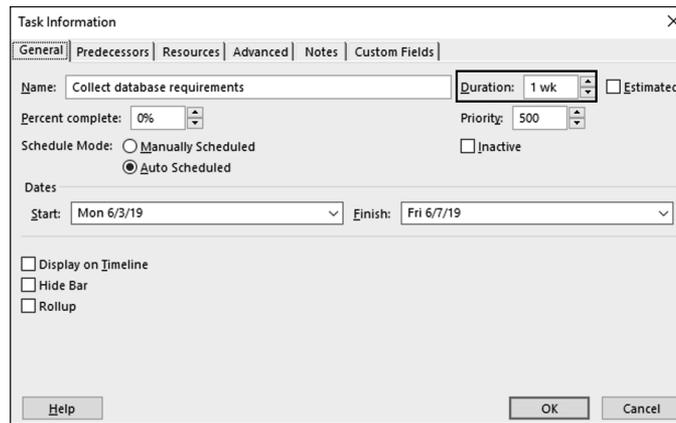

FIGURE 5-2: Setting the duration.
3. In the Duration box, use the spinner arrows to increase or decrease the duration, as shown in Figure 5-2.